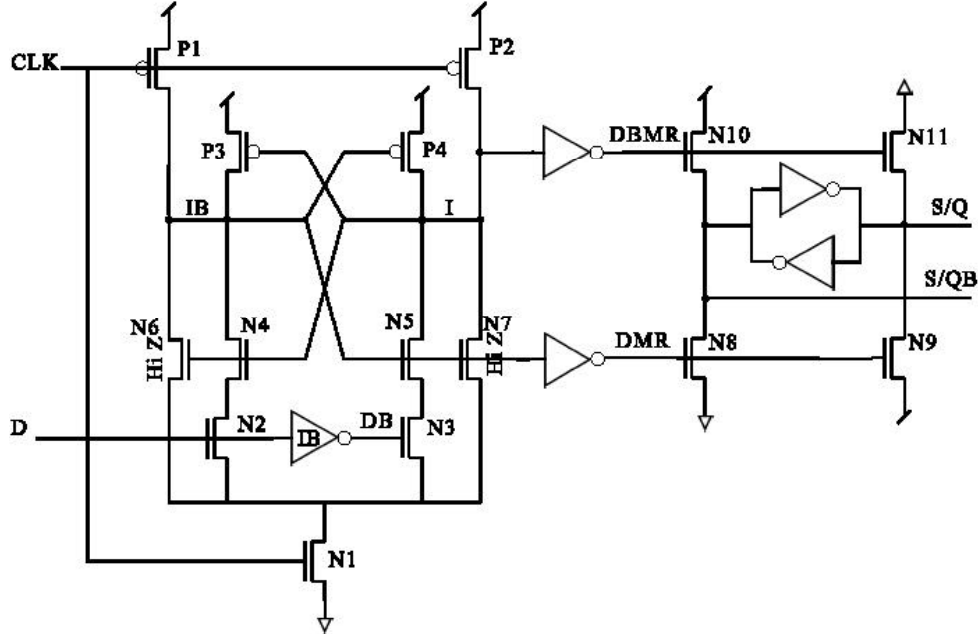

Figure 4b.
e) (8pts) Figure 4b shows a design of a rising edge flip-flop, consisting of a pulse generator in the first stage and an SR latch in the second stage. Design an equivalent falling-edge flip-flop with similar setup time. (Just placing an inverter on the clock signal will not be accepted as a correct solution, because it will change the setup time). Please explain what you did and label the schematic.